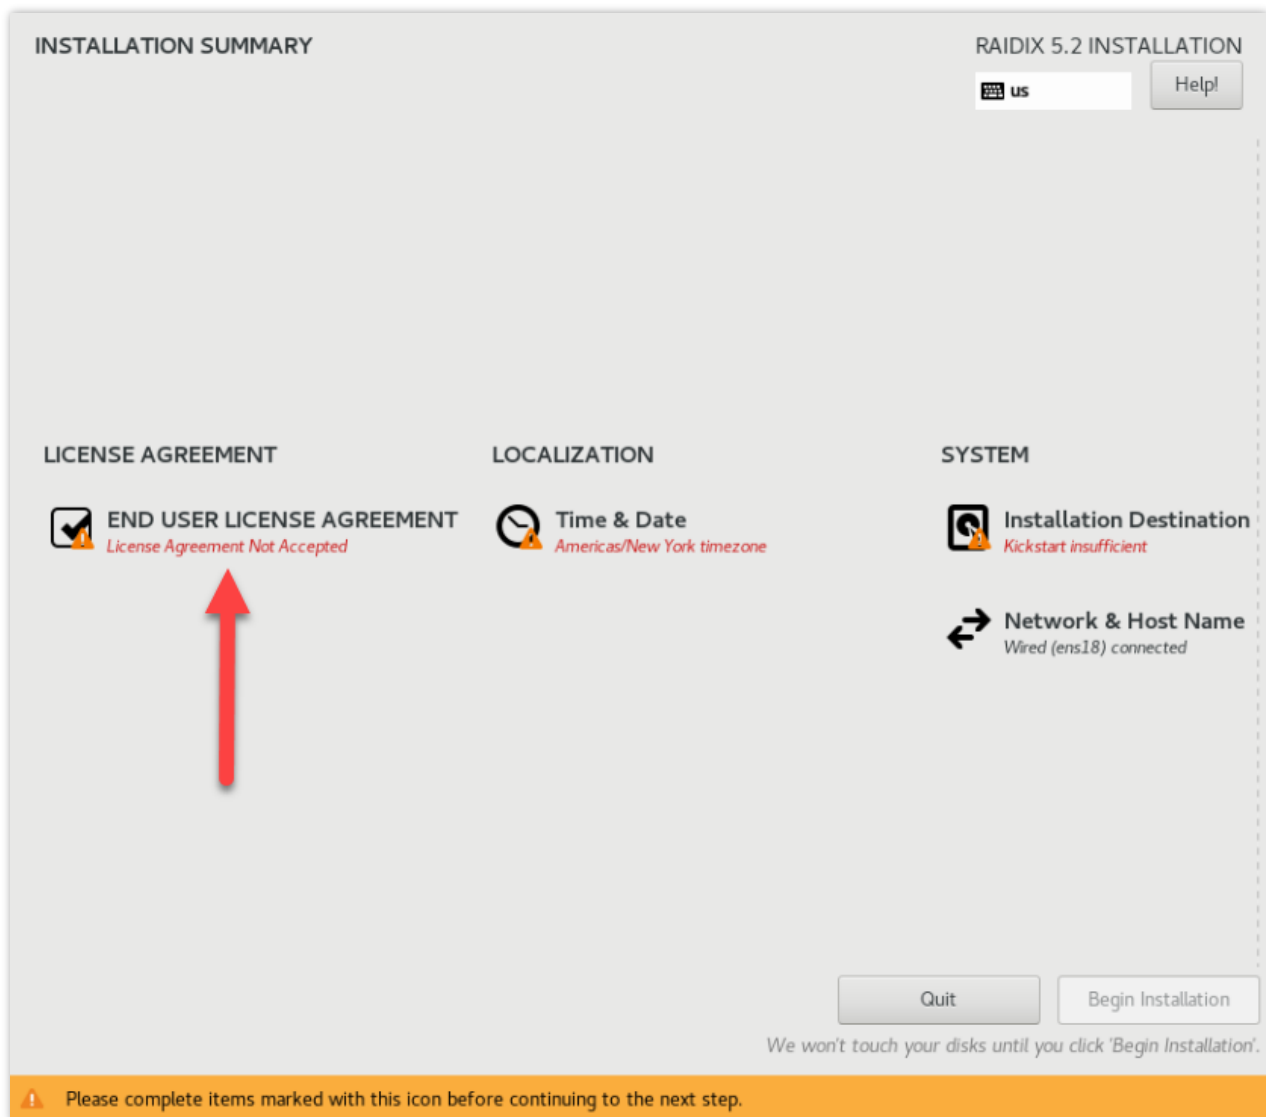

Figure 2. Front page INSTALLATION SUMMARY: selecting LICENSE AGREEMENT
1. On the opened *INSTALLATION SUMMARY* page, click **END USER LICENSE AGREEMENT** (Figure 2).